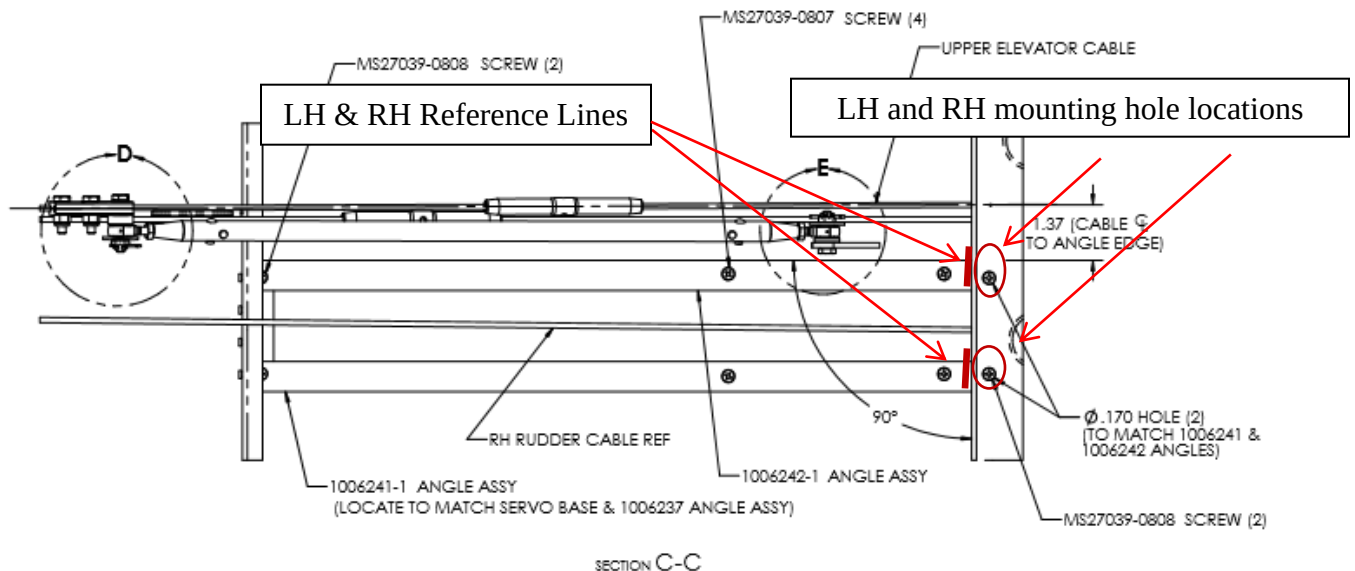

FIGURE 3-11 LH & RH ANGLE REFERENCE & MOUNTING
32. Mark the FS-124 accessory tray as depicted in Figure 3-11 with the locations of the LH and RH angles.
34. Using the edge of the accessory tray and using a colored marker, draw a reference line across the LH and RH angles as depicted in Figure 3-11.